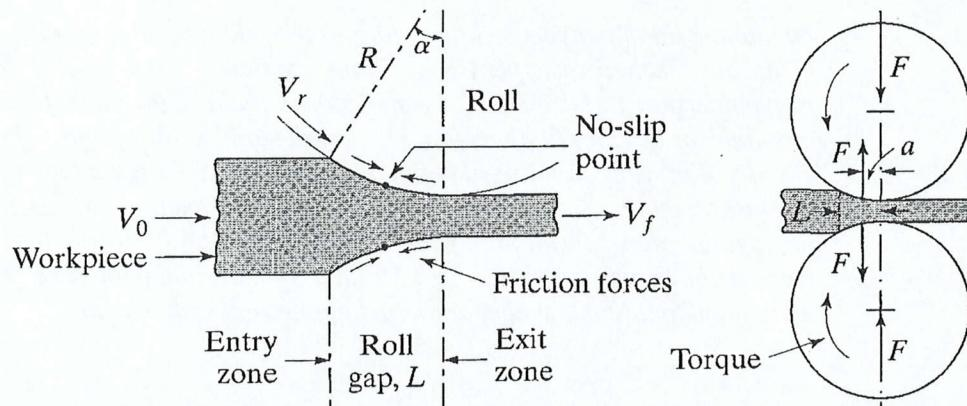

Figure 4/Gambarajah 4
3. **Figure 4** shows a schematic illustration of friction forces, the roll force (F), and the torque acting on strip surfaces of the flat-rolling process.
- (d) Show that the maximum angle α (known as the angle of acceptance- **Figure 4**) at which a plate can be pulled into the roll gap is equal to $\tan^{-1} \mu$, where μ is the coefficient of friction.